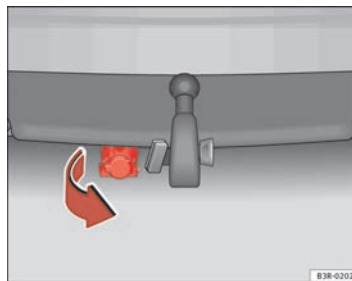

Fig. 169 Rear bumper: Pulling down the connecting socket
- To plug in the electrical connection for the trailer, pull down the socket below the bumper ⇒ page 206, fig. 169.